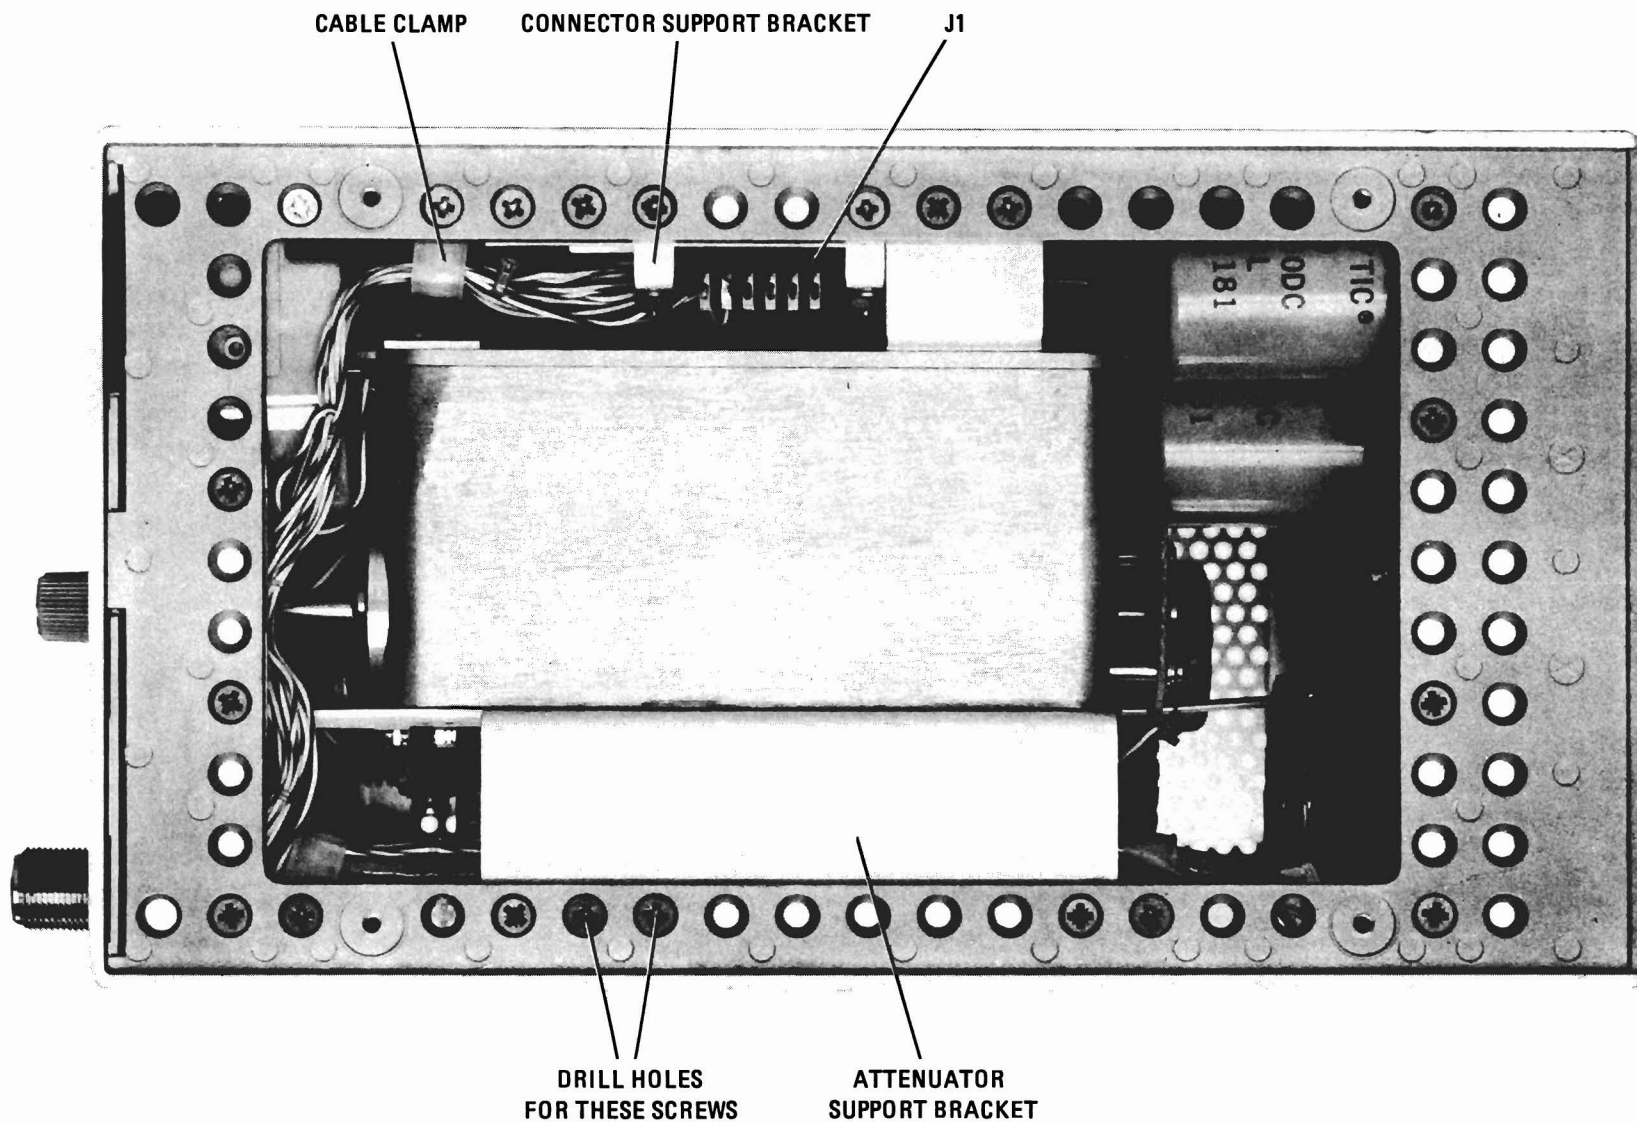

Figure 3. Right Side View with Kit Installed
7. Drill two 5/32-inch (0.156 inch or 4 mm) holes into attenuator support bracket as shown in Figure 3. Use a center punch to locate the two holes before drilling. The support bracket need not be removed for this operation.